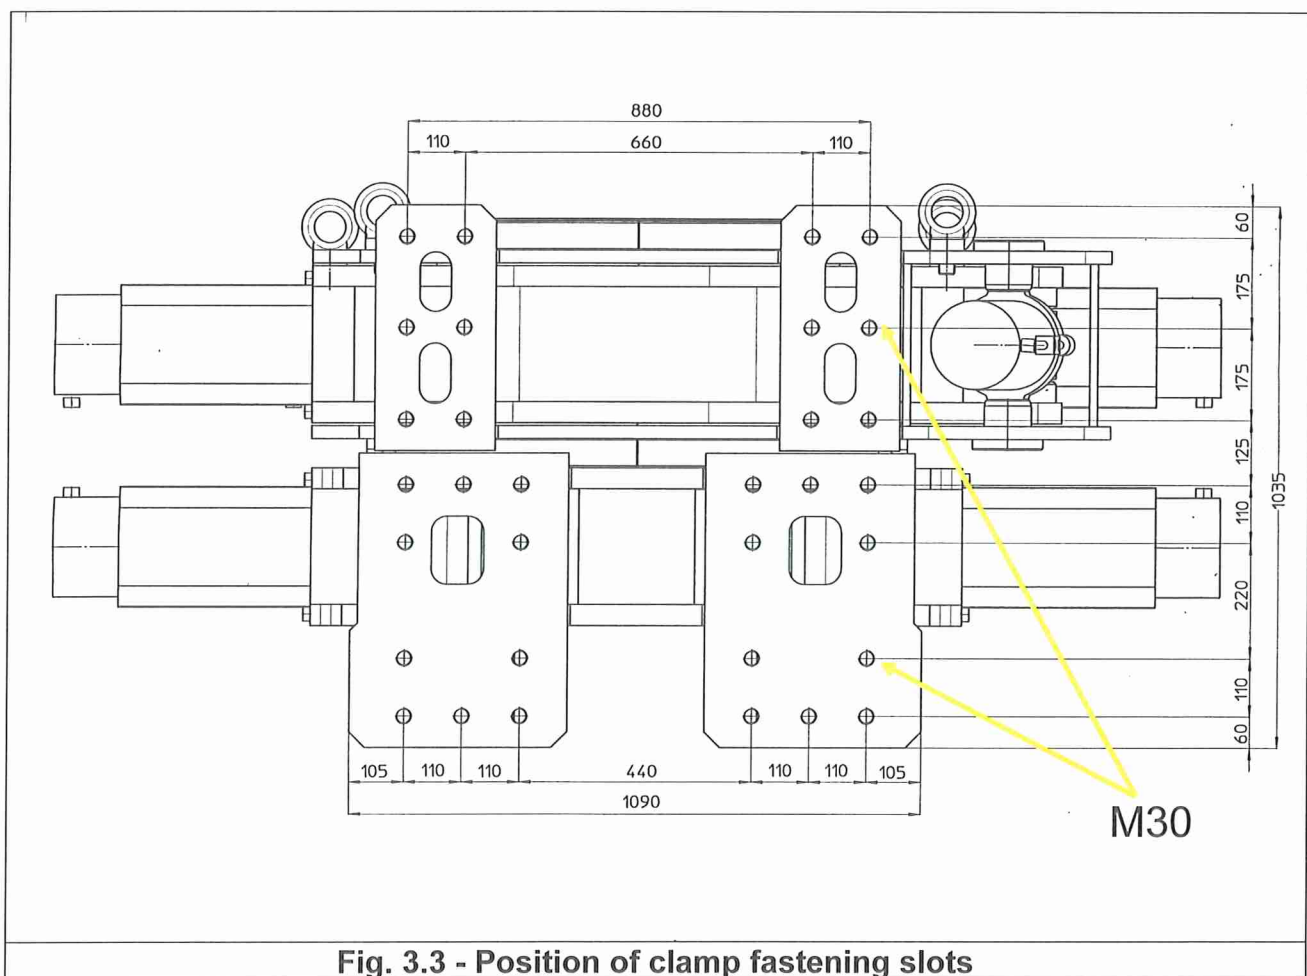

Fig. 3.3 - Position of clamp fastening slots
2. The holes on the machine connection plate must coincide with those on the revolving clamp indicated in fig. 3.3 of paragraph 3.3.1.
The device must be fitted on the machine/drill rig, tightening the 32 M30 screws at a torque of 1500 Nm (cl. 8.8). Figure 3.3 illustrates the positions of the threaded slots in the revolving clamp connection plate.